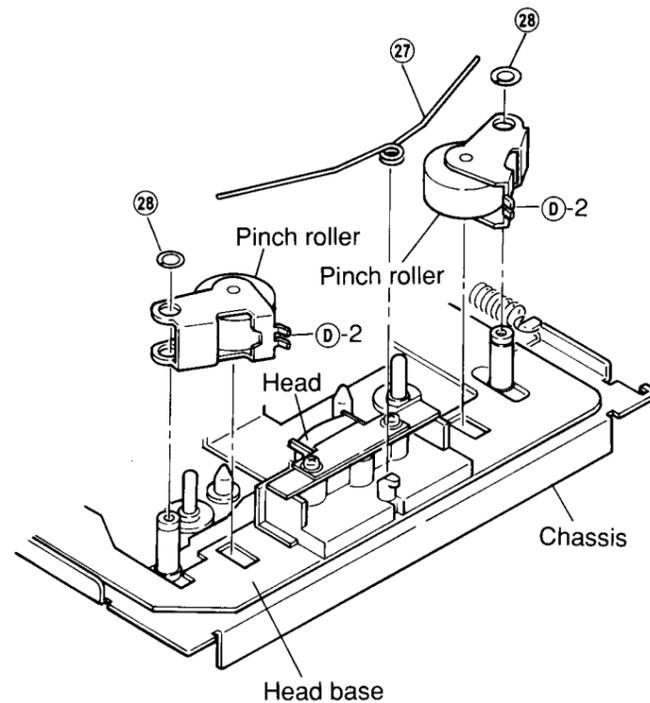

Figure 20
- (1) Remove pinch roller spring ⑳ as shown in Figure 20.
- (2) Remove M3.1 two lock washers ㉘ and remove the pinch roller as shown in Figure 20.
- (3) Mount the pinch rollers following the removal steps in the reverse order.
Apply insulation coating to the position ㉑-2 of the pinch roller as shown in Figure 20.